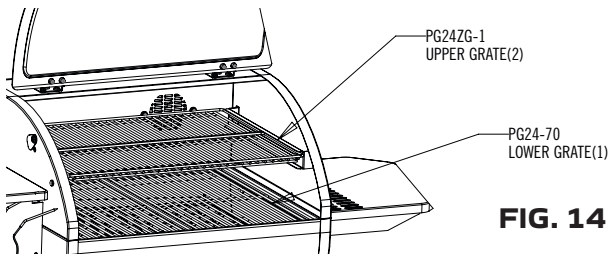

FIG. 14
1. Install the cooking grate as shown in Fig 14.